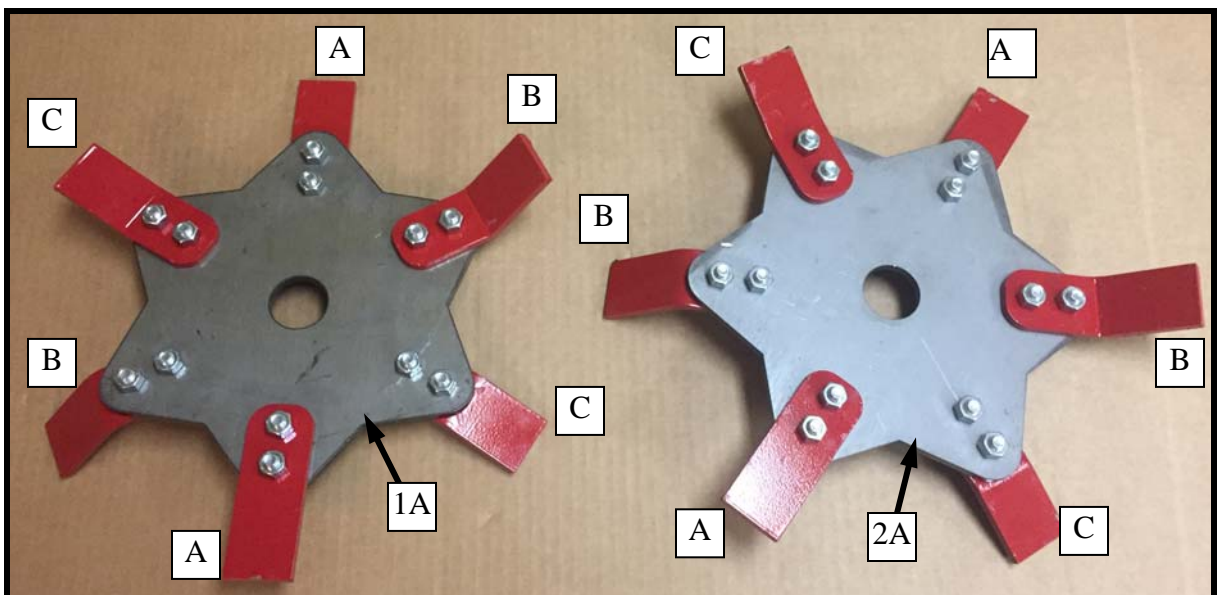
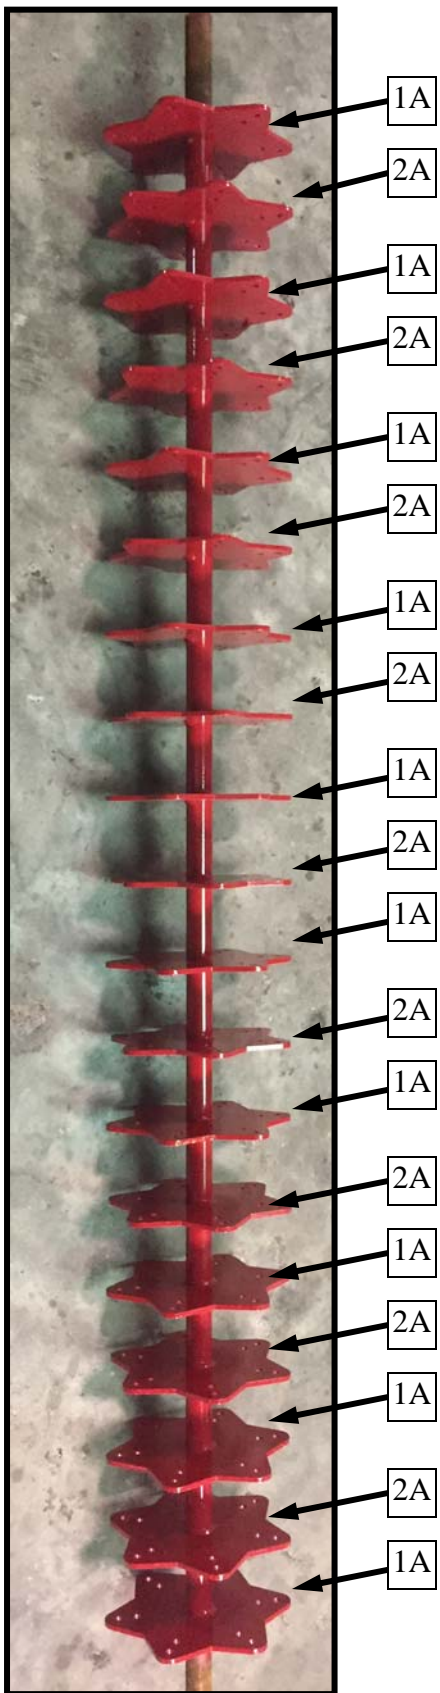

Figure 9
Figure 10
Secure Shaft where end Disk has one point vertical and place knife on disk as labeled.(Figure9) Knife (A) will move 30° clockwise from disk 1A to 2A then counter clockwise on the following disk labeled 1A. (Figure 10)